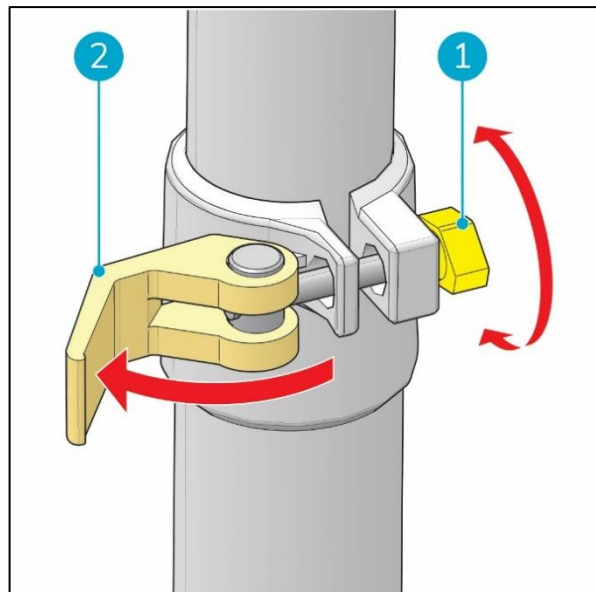

Figure 14
1. Unlock the yellow clamp (Figure 14, pos 2).
2. Turn the yellow knob at the side of the clamp (Figure 14, pos 1) clockwise to strengthen, or anti-clockwise to loosen the tightness of the clamp.